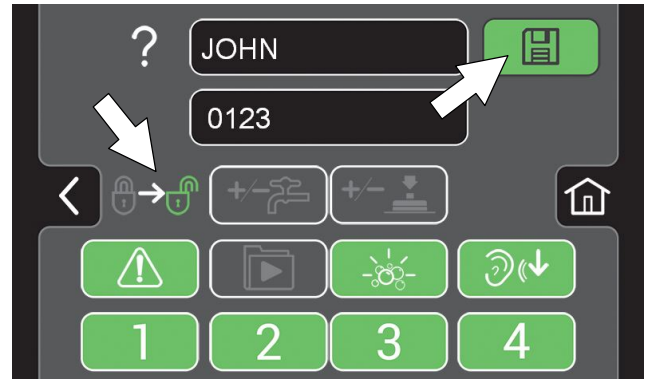

FIG. 173
- Select the controls the new user should only have access to use (Figure 173). Green represents unlocked controls and gray represents locked controls. Press the flashing save button to save new profile.